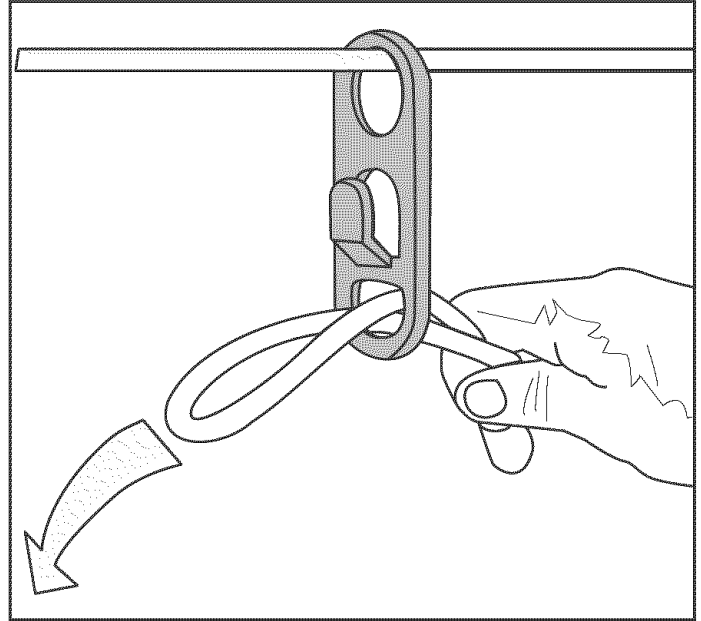

Fig. 3
2. Push the loop through the bottom hole in the cord retainer (Fig. 3).